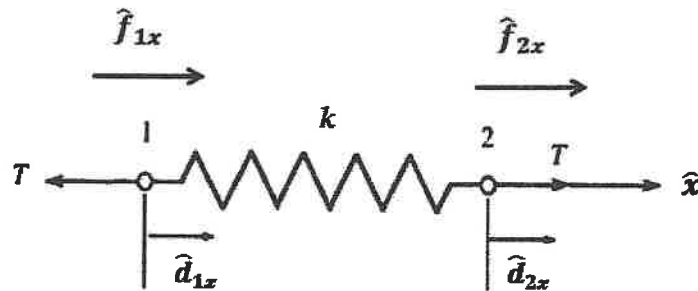

Figure Q4(b)
- b) Derive the element stiffness matrix and equations for a linear spring subjected to tensile forces, as shown in **Figure Q4(b)**.